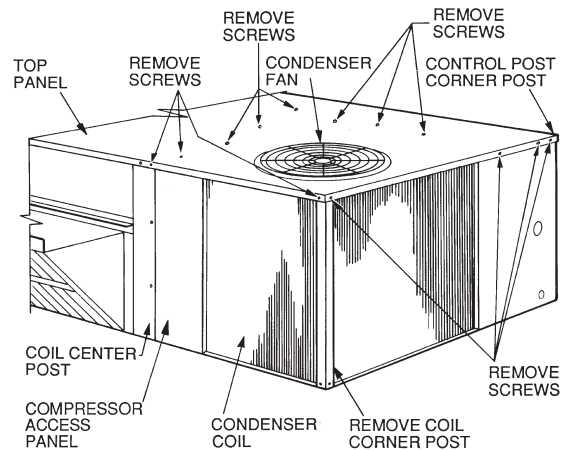
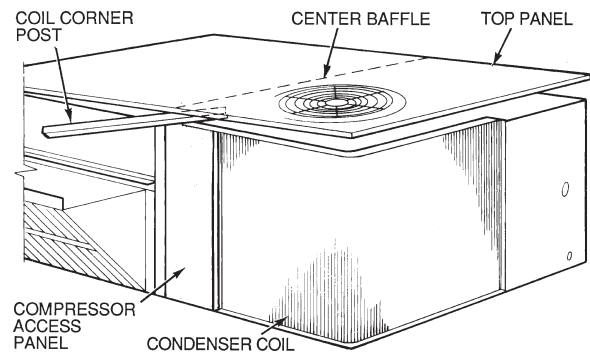

Fig. 19 — Cleaning Condenser Coil
Fig. 20 — Cleaning Condenser Coil
3. Remove condenser coil corner post. See Fig. 19. To hold top panel open, place coil corner post between top panel and center post. See Fig. 20.